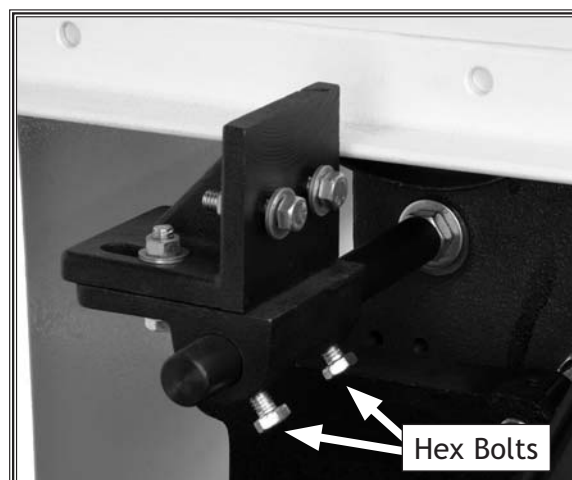

Figure 35. Splitter bracket installed.
4. Slide the bracket assembly onto the end of the shaft as shown in **Figure 35** and finger tighten the hex bolts.